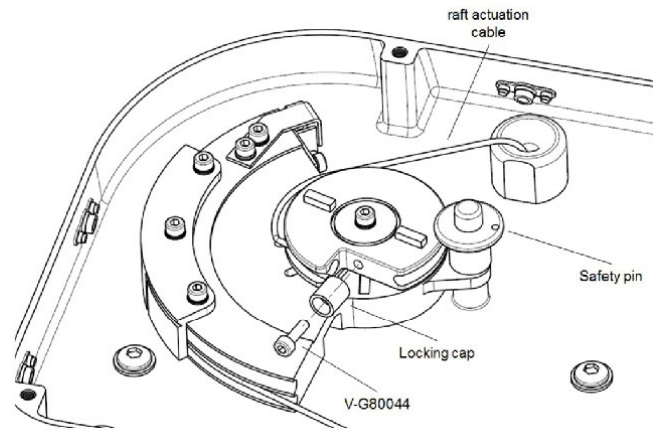

Figure 6 – Raft actuation cable release / locking
- (b) Remove the Locking cap P/N 309807A unscrewing the screw P/N V-G80044 and release the raft actuation cable from the Upper Pulley P/N 309774A. Ref to Figure 6.